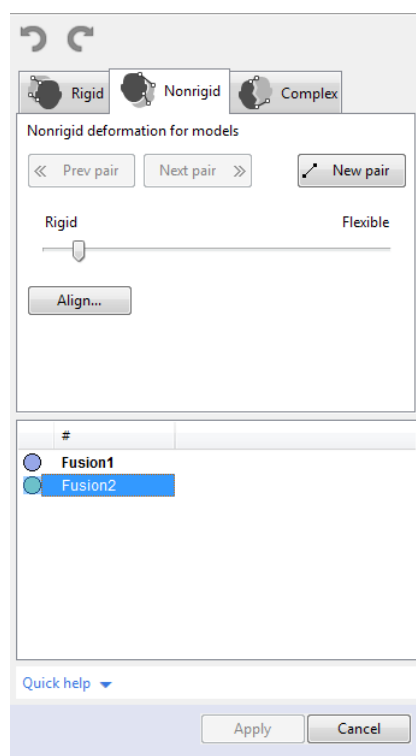

Figure 71: *Align* panel: *Nonrigid* tab.
1. Make sure the *Nonrigid* tab is selected (see Figure 71).